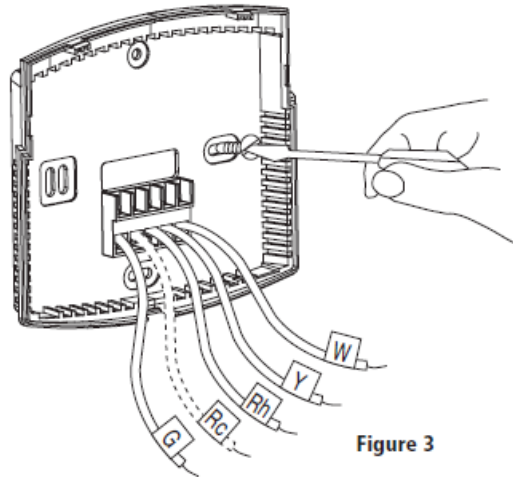

Figure 3
- Reposition wallplate to wall, pulling wires through large opening. Insert mounting screws provided into wall anchor and tighten. See Figure 3.